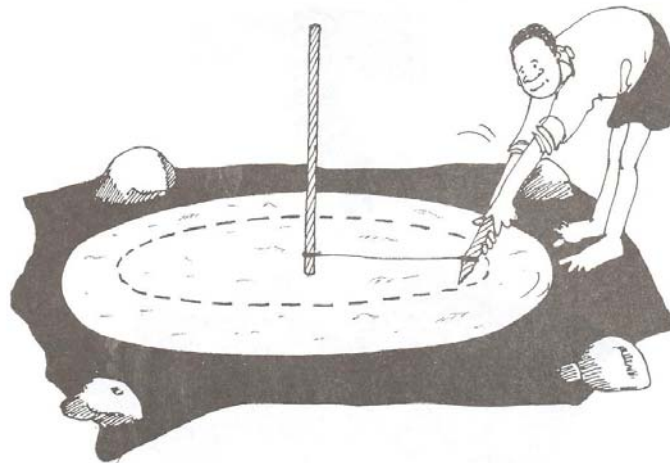

Figure 4.6 Marking out
3. Spread a thick layer (about 2 cm) of mortar on the foundation outside the 150 diameter circle you have marked. Lay the mortar 5 cm beyond the width of the bricks to be used, laying the bricks as shown in Fig. 4.6, with mortar in each joint between bricks. Level each brick as it is laid until the circle is complete.